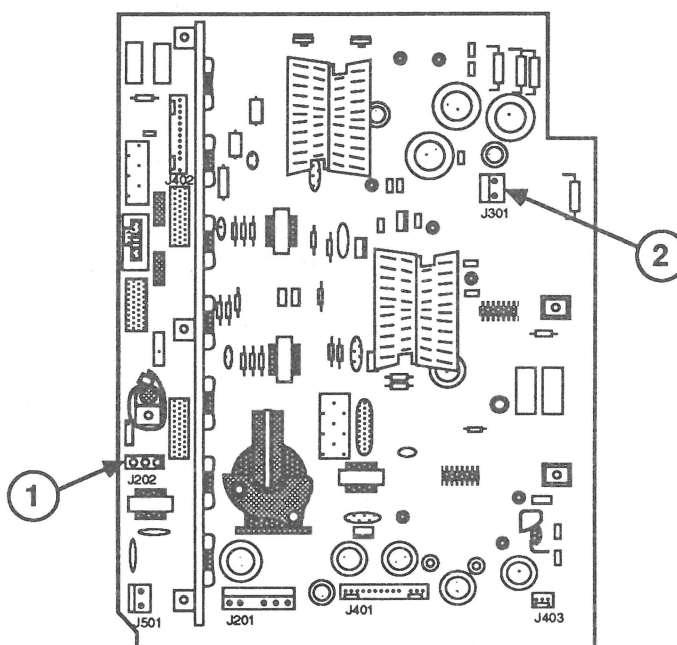

FIGURE 42
5. Reconnect to the main board the two connectors listed in Table 6 and Figure 42.